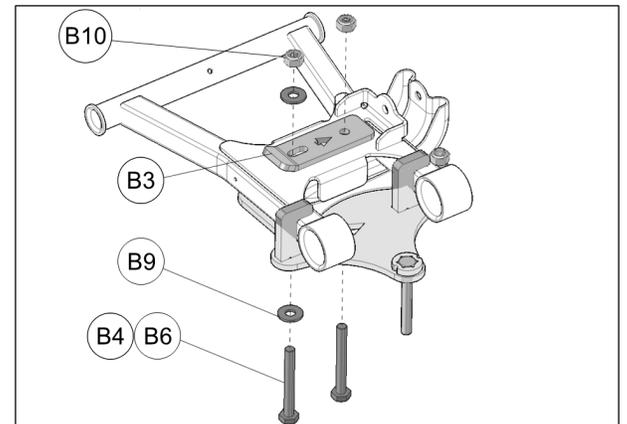

Fig. 8
- Position bracket cover (**B3**) over lower suspension arm. Insert appropriate bolts [M10x55mm (**B4**) or M10x80mm bolts (**B6**)] through bottom. Set washers (**B9**) over bolt head and under nut installed in oblong holes present in bracket plate and cover. Use nuts (**B10**) to secure assembly. See Fig. 8